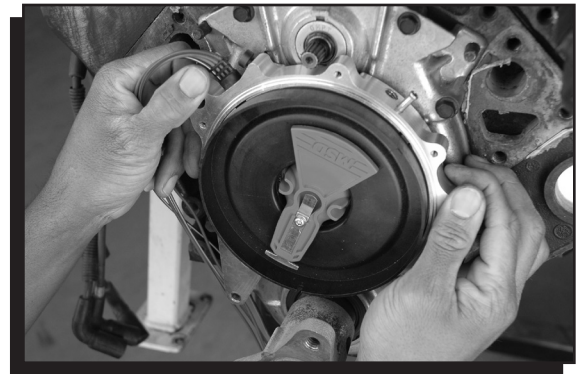

Figure 11 Installing the New Distributor.
19. Install the new Distributor (Figure 11). Use the supplied socket head hex screws.